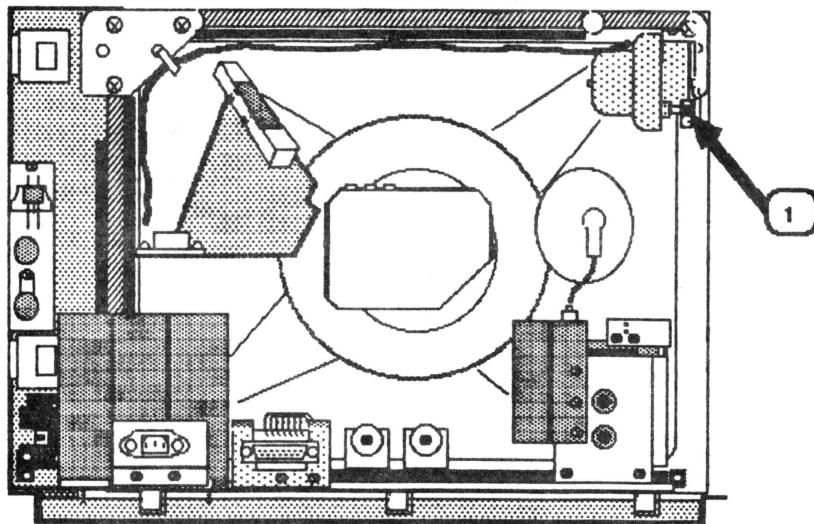
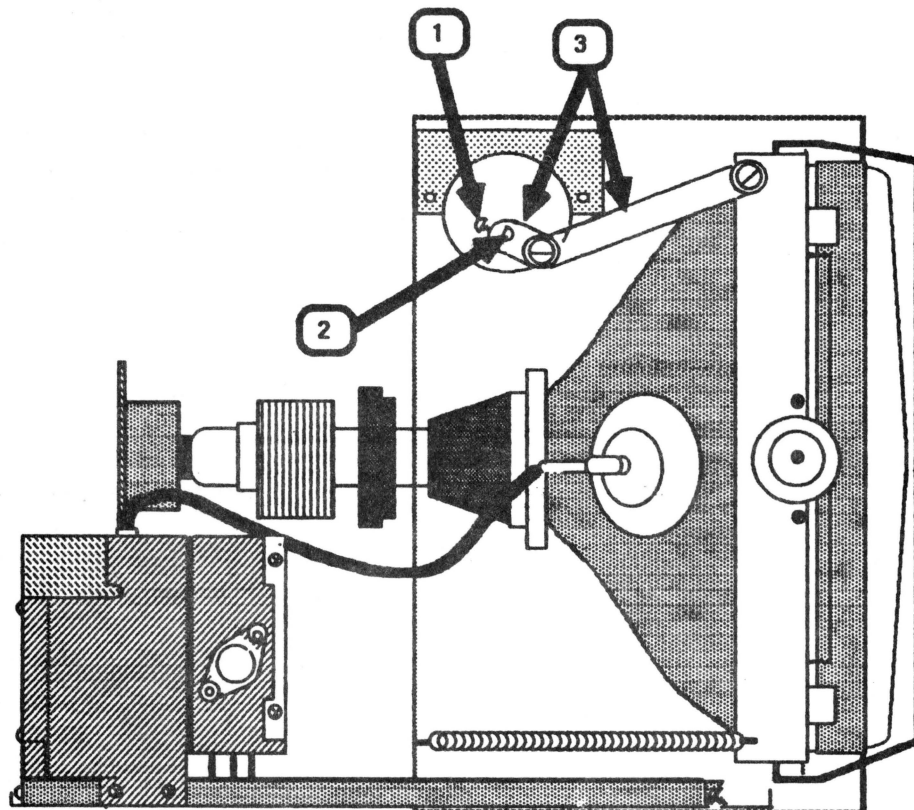

FIGURE 13
FIGURE 14
4. Loosen the motor shaft screw (Figures 13, #1 and 14, #1) until the screw clears the shaft (Figure 14, #2).
8. Slide the motor away from the motor bracket until the shaft clears the motor link assembly (Figure 14, #3).
1. Slide the motor shaft into its fit-through in the motor link assembly (Figure 14, #2).